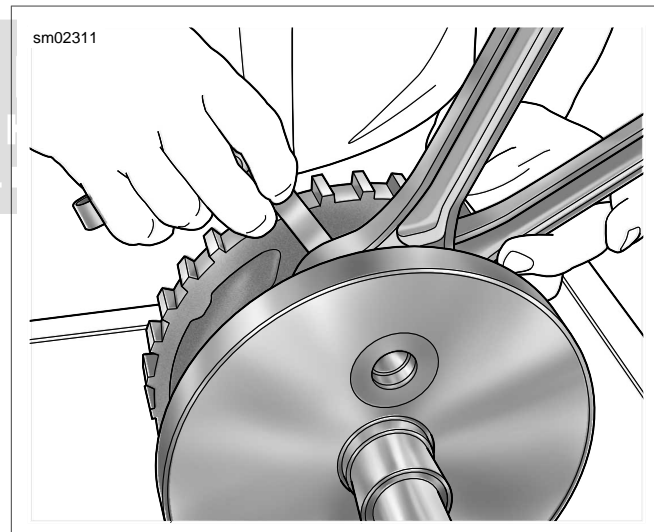

Figure 3-140. Connecting Rod Side Play
3. See Figure 3-140. Check connecting rod side play.